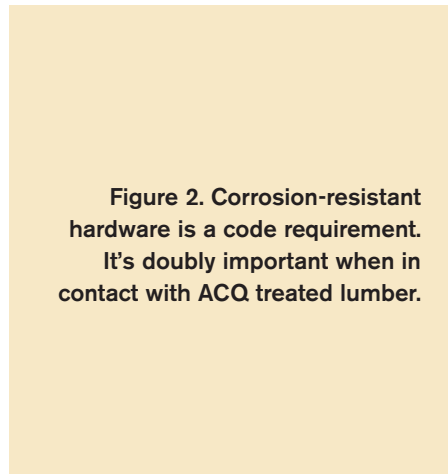

Figure 2. Corrosion-resistant hardware is a code requirement. It's doubly important when in contact with ACQ treated lumber.
steel, stainless steel, silicon bronze, or copper. Joist hangers and anchoring straps are subject to the same requirements as fasteners. IRC table R602.3 (1), "Fastener Schedule for Structural Members," specifies the correct type, size, and number of fasteners required in common construction elements (Figure 2).